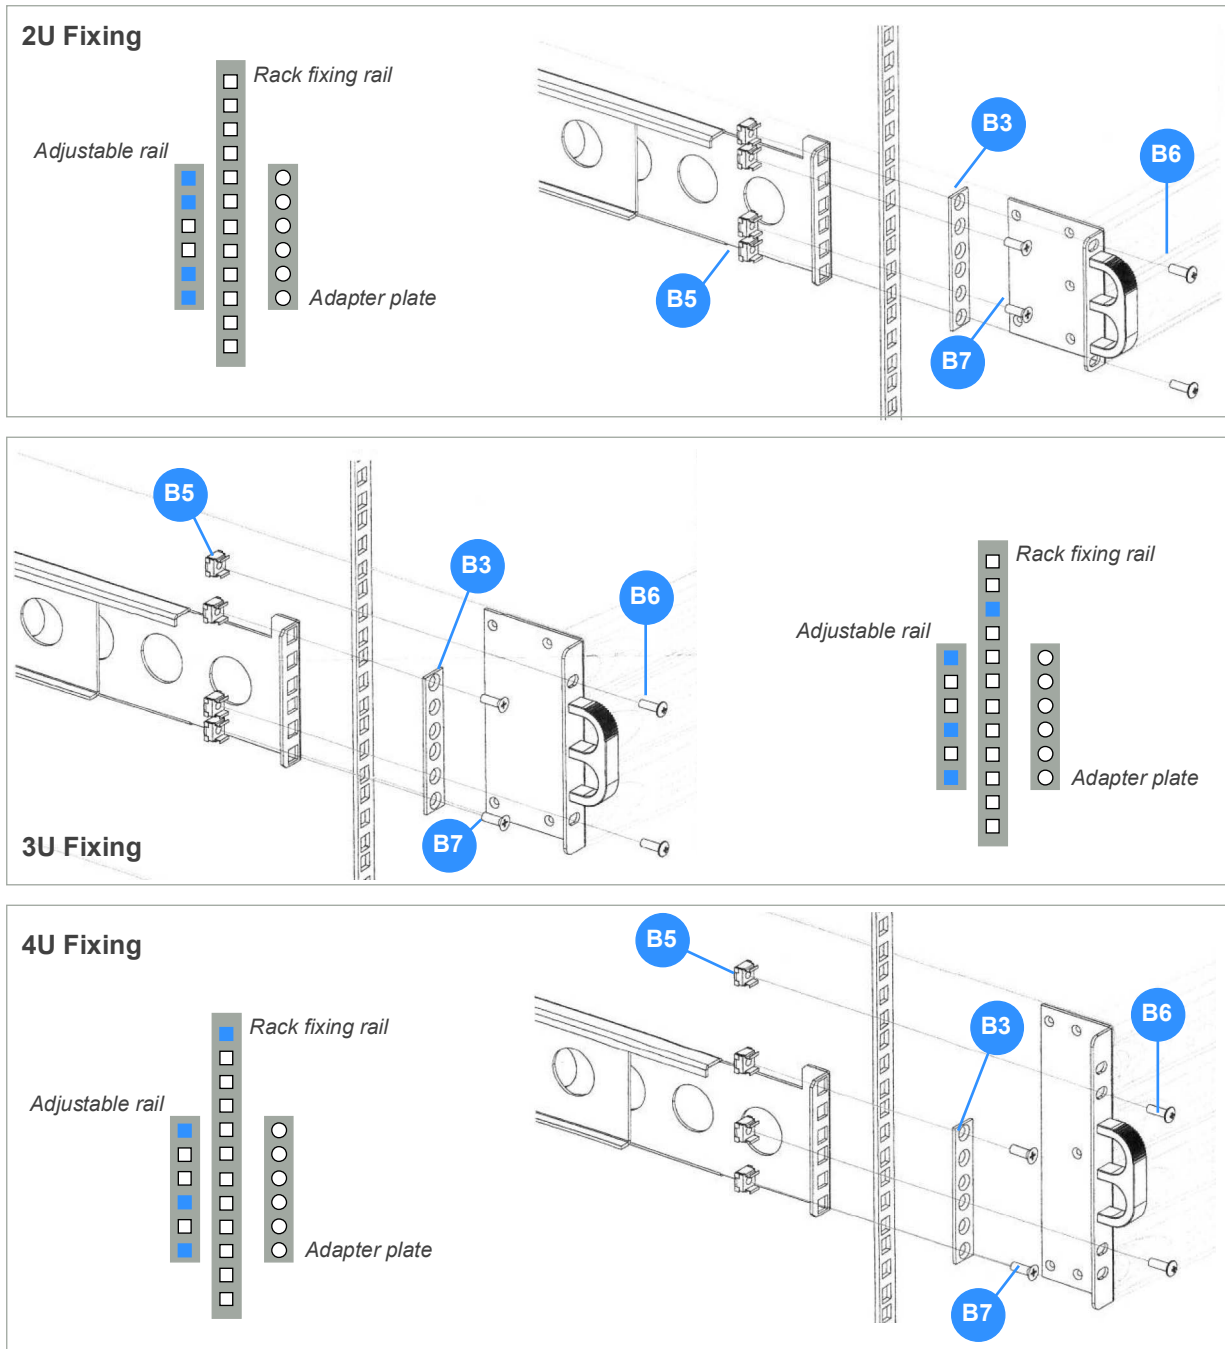

Figure 3.9 Fixing point for captive nuts
*Note: Depending on the depth of the enclosure being installed (2U, 3U, 4U), this may require an adapter plate – see Figure 3.9 for fixing details.*
8. Secure the adjustable mounting rail to the vertical rail using two countersunk screws (B7) and adapter plate (B3) (see Figure 3.9).
10. When both mounting rails are fitted, carefully insert the Battery and UPS enclosures into the rack so that they rest correctly on the rails. Then secure in place using the four dome head screws (B6) as shown in Figure 3.9.